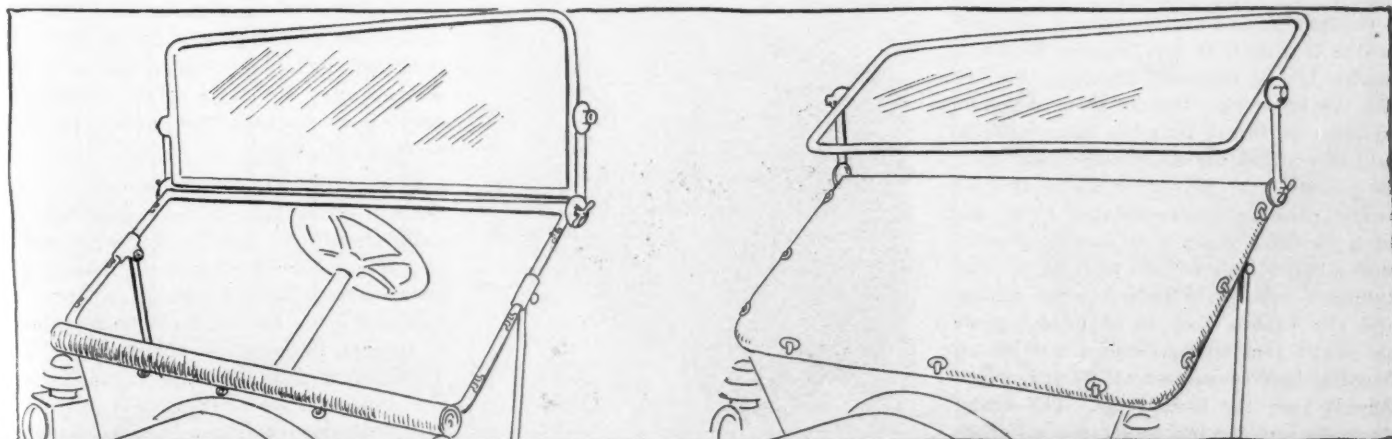

FIG. 6—ZIG-ZAG WINDSHIELD MADE BY THE VANGUARD MFG. CO., SHOWING ITS VARIED POSITIONS
**Vanguard Mfg. Co.**—The Zig Zag windshield, Fig. 6, made by the Vanguard Mfg. Co., is a novelty in that the lower or angular portion is fitted with a removable curtain of water-proof silk mohair or pantasote. The lower or slanting portion of the frame is made of Shelby seamless tubing, which is very rigid, and enameled. The upper half as well as side arms and friction joints are of solid brass, well finished and highly polished. Plate glass 3/16 inch thick is securely held in grooves in the frame by a spring bronze sub-channel; and the removable curtain may be made of any material preferred. By means of friction disks and thumb screws the upper portion of the screen may be readily set at any angle, and if desired the lower water proof covering can be loosened at the sides and rolled down or removed entirely. The advantages claimed for the